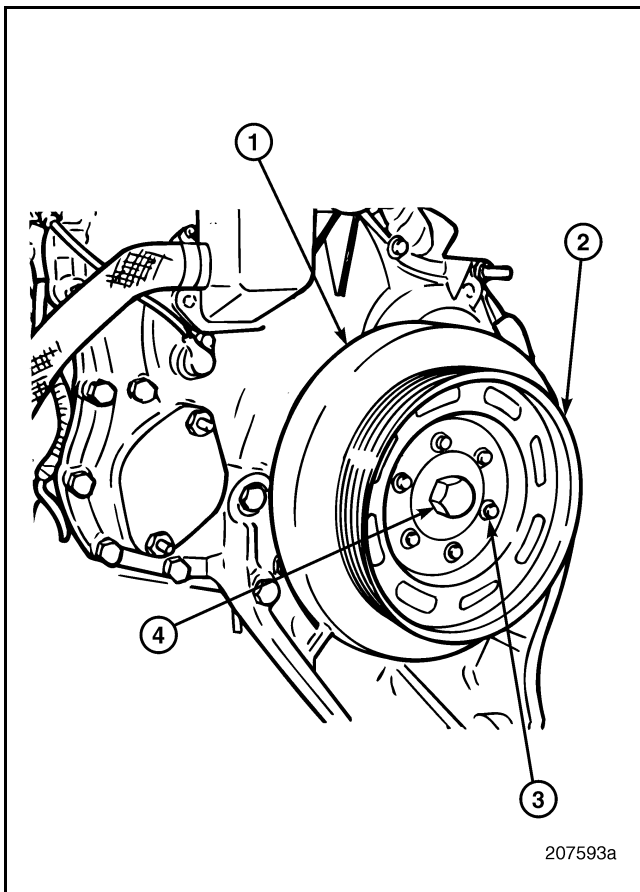

Figure 169 — Vibration Damper Removal
1. Remove the capscrews attaching the vibration damper to the crankshaft hub (Figure 169). Six or 12 capscrews may be used to mount the damper to the hub depending on date of production.